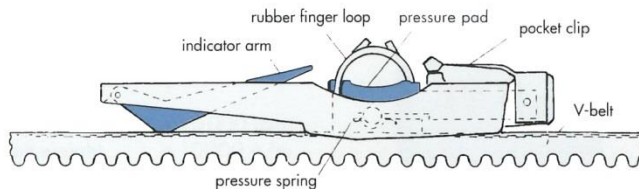

Figure 5.5
- Belt Tension tool – OPTIKRIK I (Part number 140155.0). See Figure 5.5
5.1.2.4.1 Position the OPTIKRIK I on one of the belts in the middle of a length as shown in Figure 5.5. Take care to ensure that the indicator arm is pushed down into the gauge body. Align the gauge so that its body is parallel with the sides of the belt.